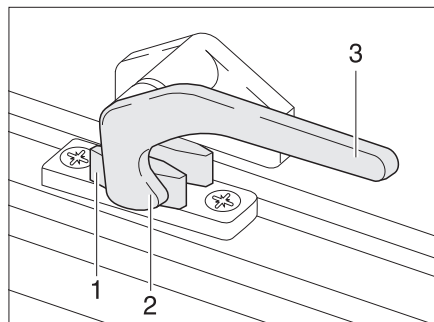

Fig. 35 Catch lever in "closed" position
- Turn the catch lever (Fig. 35,3) a quarter turn towards the centre of the window.
- Turn the catch lever (Fig. 35,3) a quarter turn towards the window frame. The locking catch (Fig. 35,2) is located on the inside of the window catch (Fig. 35,1).
- "Firmly closed" (Fig. 35)